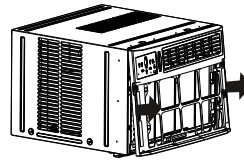

Fig. 3
4. Push metal cabinet side to release plastic tabs on each side of front panel. (See Fig. 3.)